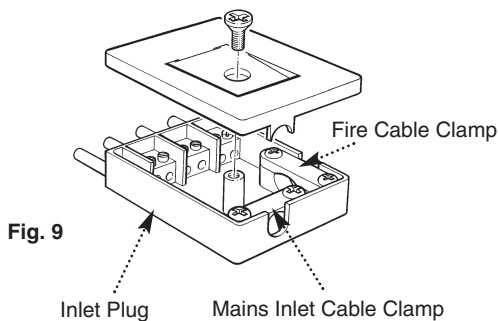

Fig. 9
2. Remove the 4 pin electrical plug from the boiler (Figs. 6 & 7), remove the cover from the 4 pin plug and undo the cable clamps (Fig. 9).